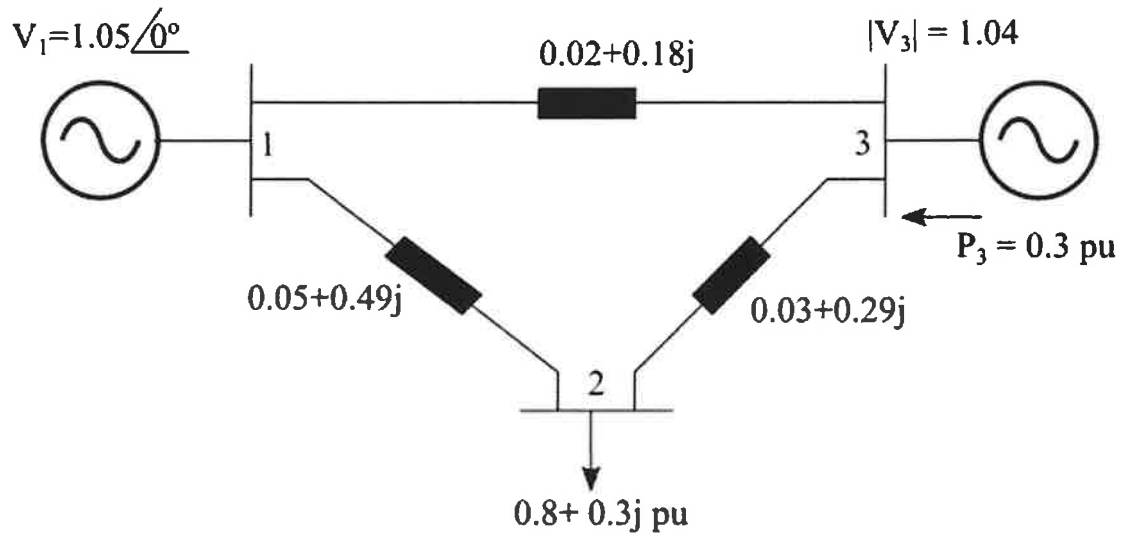

Figure Q4.
- b) Consider the three-bus power system shown in Figure Q4. Bus 1 is the slack bus, Bus 2 is a PQ bus, and Bus 3 is a PV bus. The line impedances and bus data are provided in the figure. All quantities are expressed in per unit on a common base of 100 MVA.